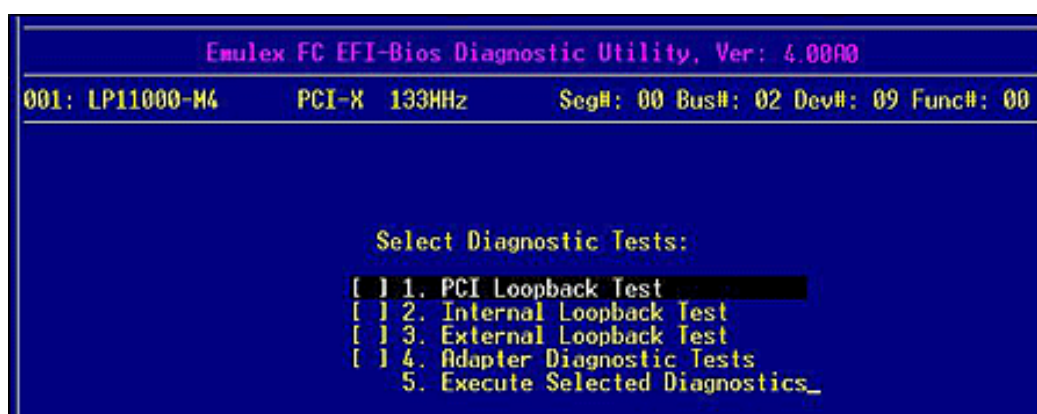

Figure 8-3 Diagnostic Tests Menu
1. On the Diagnostic Main menu (Figure 8-2), select **<1>. Diagnostic Tests**. Press **<Enter>**. The Diagnostic Tests menu is displayed (Figure 8-3).
1. Access the Diagnostic Main menu (Figure 8-2) and select **<1>. Diagnostic Tests**. Press **<Enter>**. The Diagnostic Tests menu is displayed (Figure 8-3).
The Adapter Diagnostic Tests include adapter restart, display of some configuration parameters, results of linkup and target login. These actions cannot be selected individually. If any one of these tests fail, Failed is displayed on the Diagnostic Test menu (Figure 8-3).